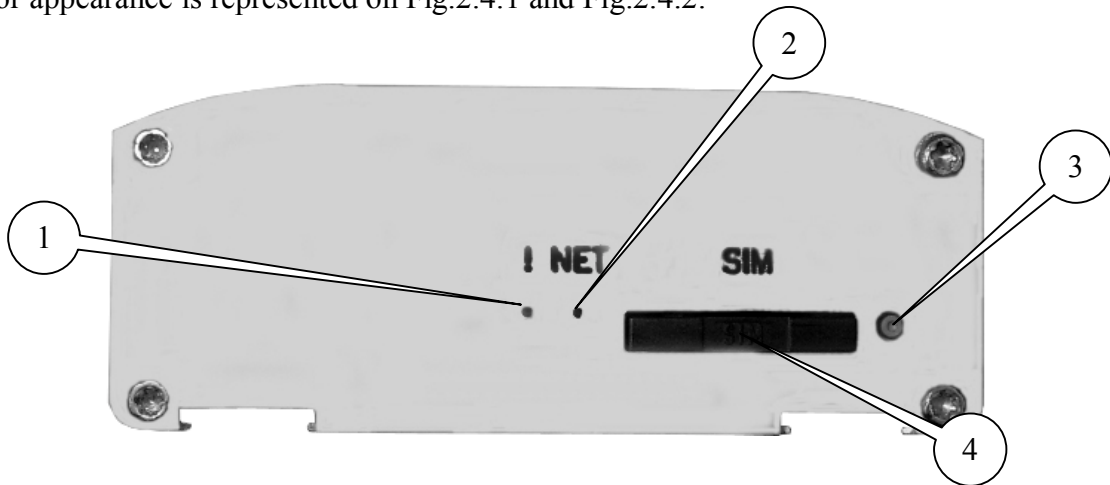

Fig.2.4.1 Front view
The modem MC485 is a compact device made in a durable and lightweight aluminum housing. The exterior appearance is represented on Fig.2.4.1 and Fig.2.4.2.
- to extract the SIM tray by pressing the SIM tray extract button (Fig.2.4.1);